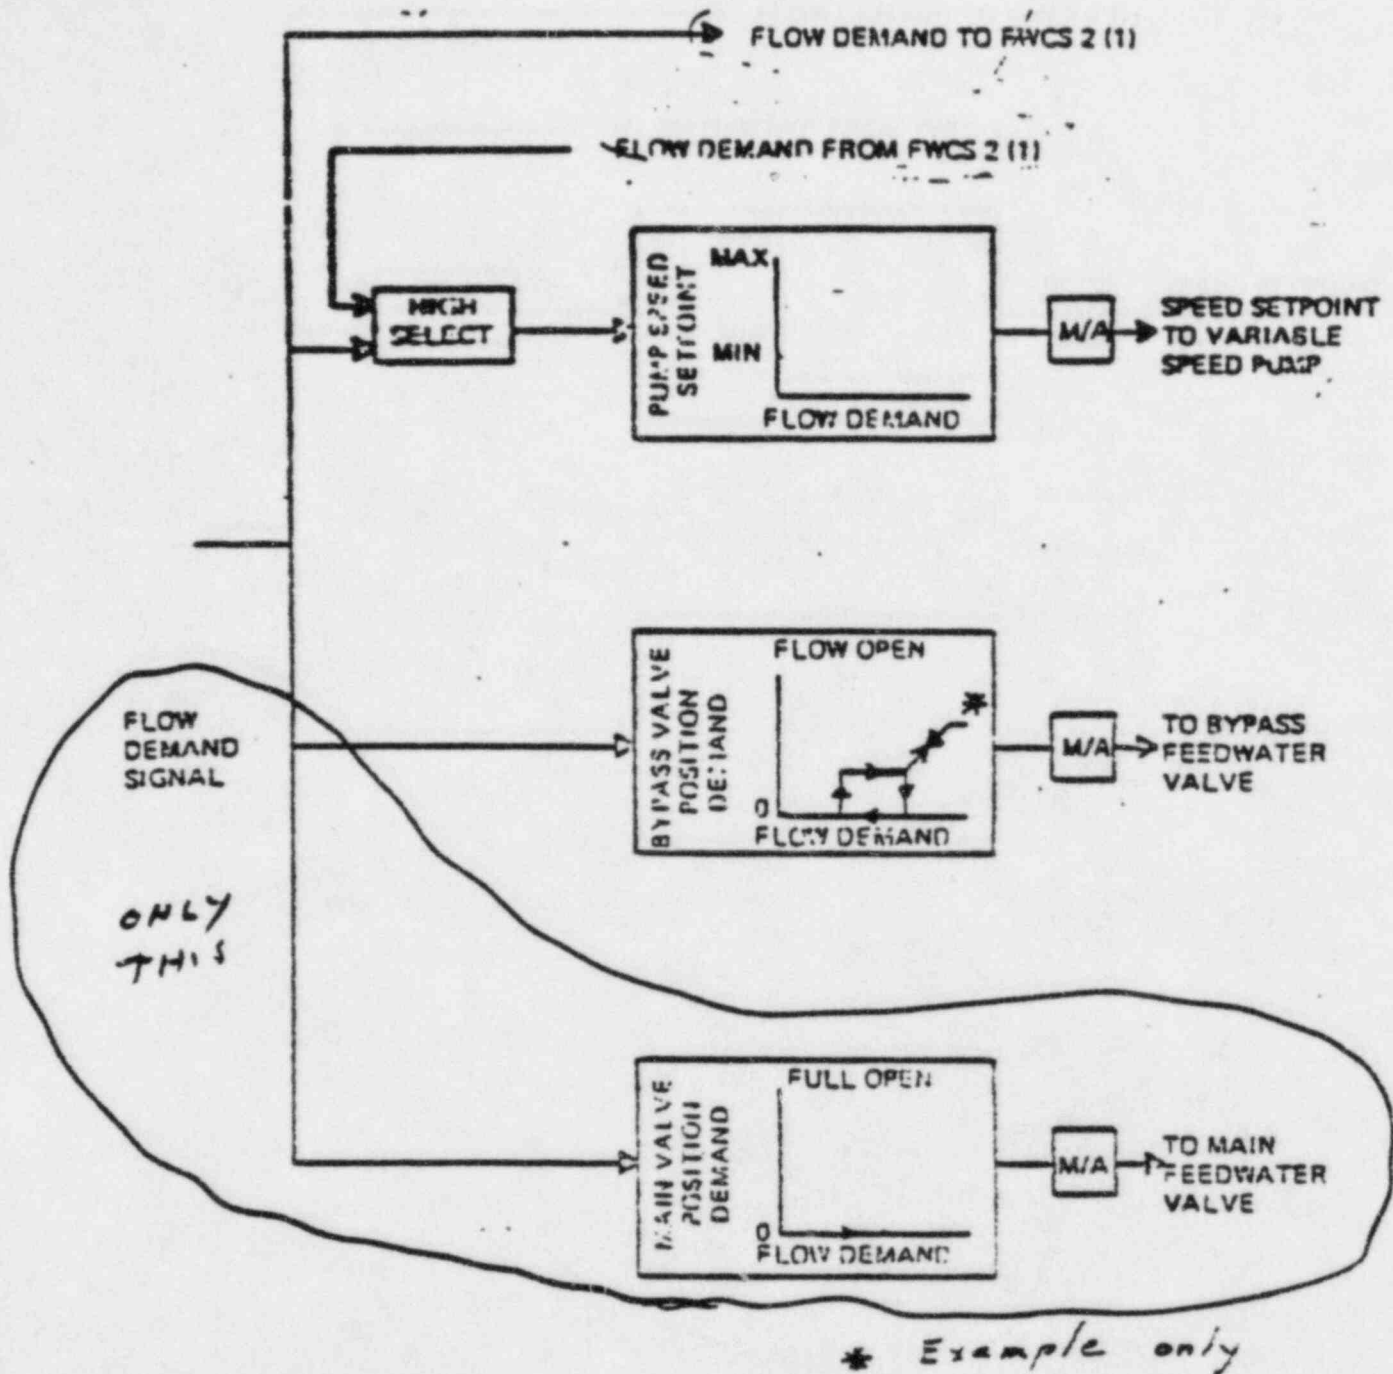

FIGURE 6.01
Figure 6.01 shows part of the Feedwater Control System (FWCS).
Figure 6.01 shows the "FLOW DEMAND" signal being routed to ~~three (3) "programmers" which feed three (3) "M/As."~~ *MAIN FEEDWATER VALVE* Describe how this FLOW DEMAND signal is generated. (Assume that the master controller is in AUTO.) In particular, list the sensor signals that are used as inputs, the inputs that are manually set, and specify how these inputs are processed and combined. Do not describe test or calibration functions and operations.